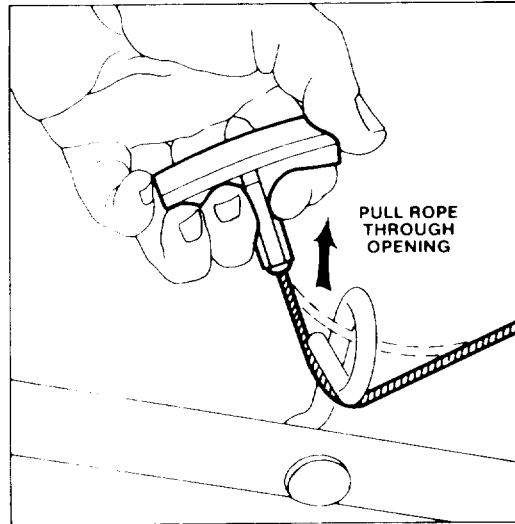

Figure 3
4. Pull starter rope through loop opening on handle (Fig. 3). By squeezing